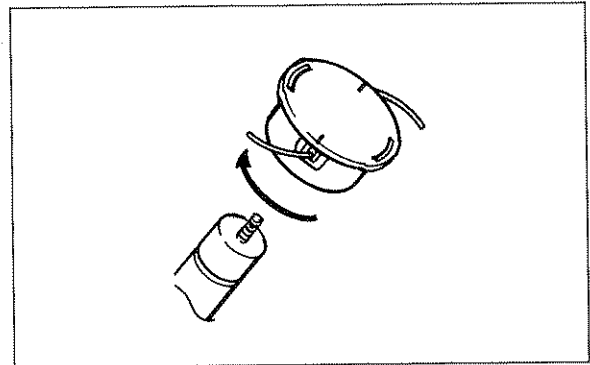

Fig. 27
2. Screw the automatic trimmer head by hand to the output spindle. (Fig. 27)